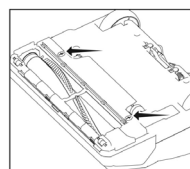

Fig. 3
5. Turn the two screws a quarter turn to release the bottom plate (Fig. 3). Remove the bottom plate.